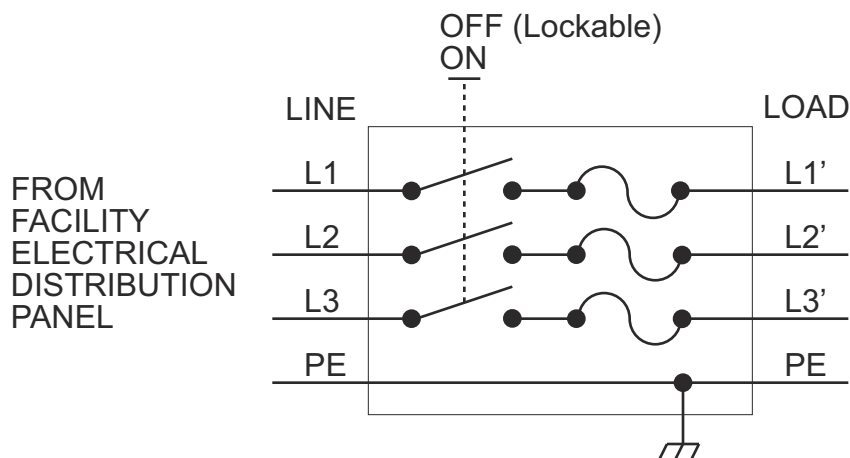

Figure 1-7. Electrical Disconnect Switch
It is recommended that the LMC power cable be attached to a lockable electrical disconnect switch. The disconnect switch must disconnect all three phases, but never the Protective Earth (PE) ground. In-line fuses may be installed but are not required. A typical lockable disconnect switch is shown in Figure 1-7.